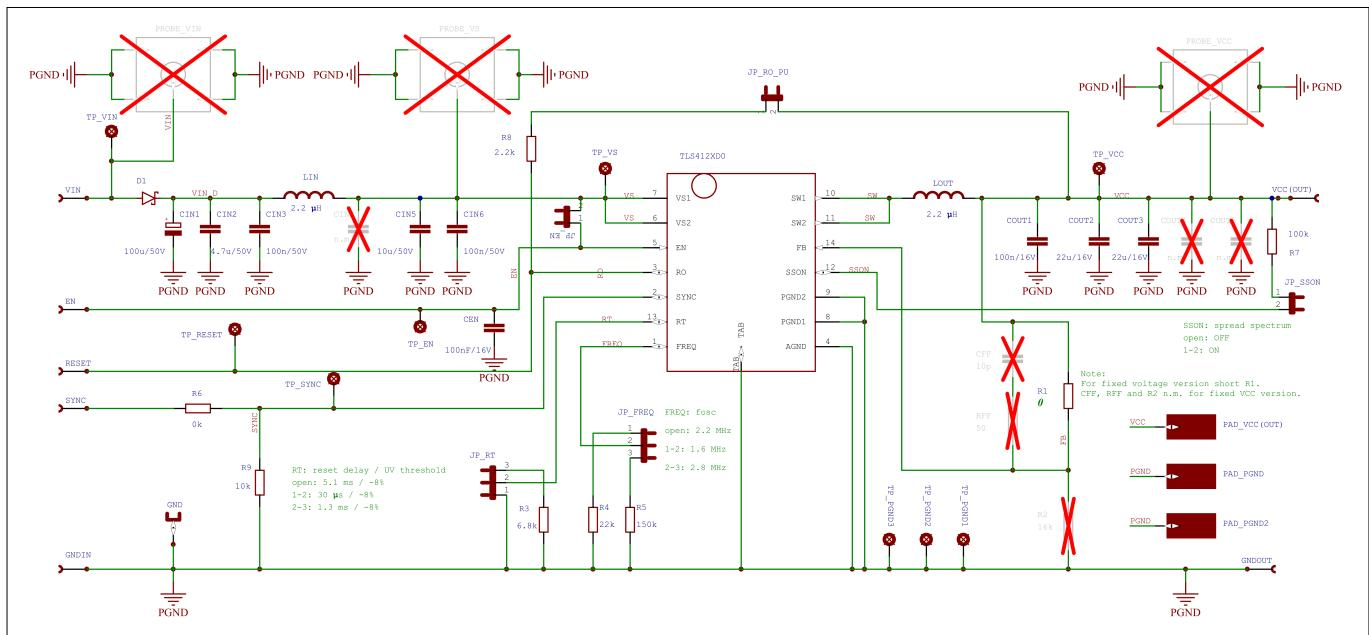

Figure 13 Schematic for fixed output voltage variants in HF configuration
- fixed output voltage variants TLS412xD0EPVxx in HF configuration, see Figure 13